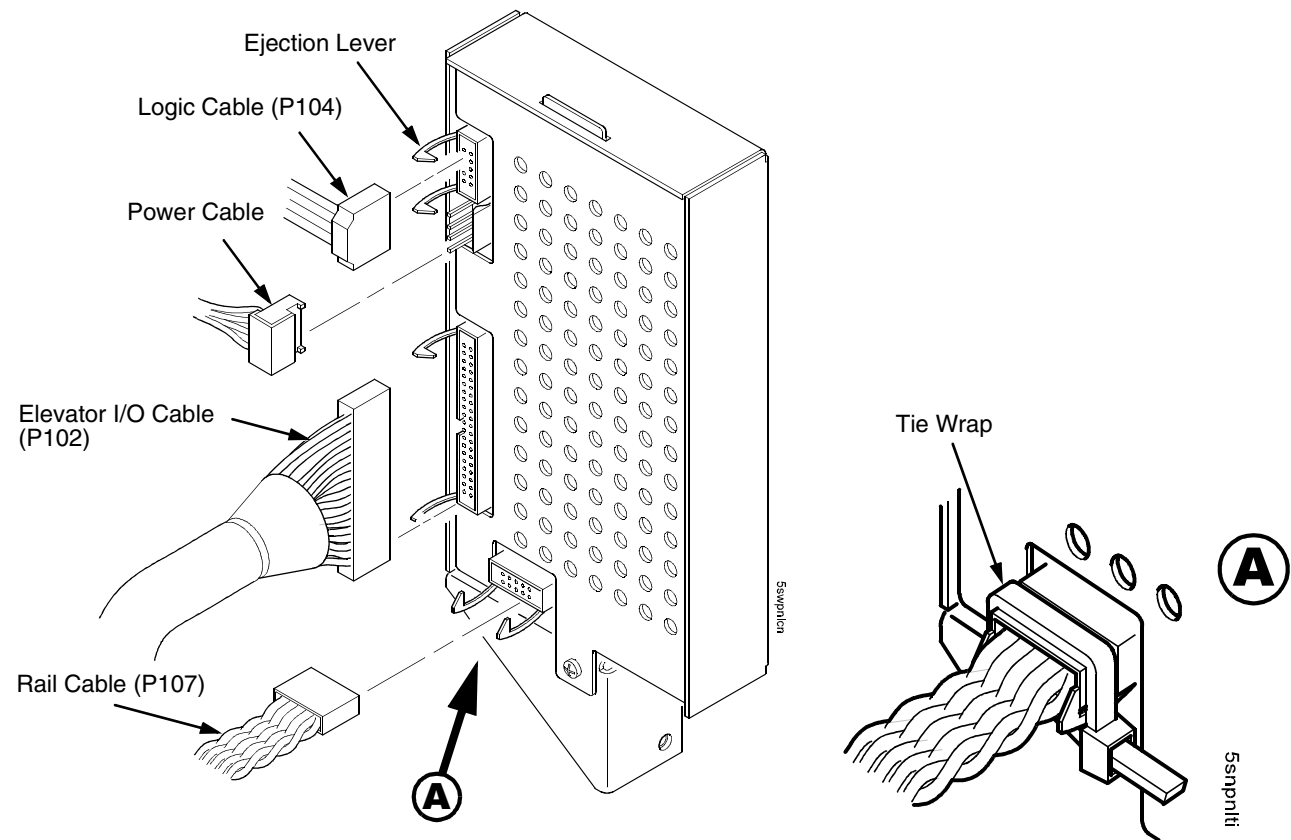

Figure 75. This figure shows how to install the operator panel cables to the rear of the stacker operator panel.
16. Connect the stacker cables to the rear of the stacker operator panel assembly and make sure the ejector levers close over the connectors. (Figure 75.)
17. Press rail cable connector P107 into the operator panel until the ejectors close, then tie wrap the ejectors to the connector. (Figure 75, detail.)